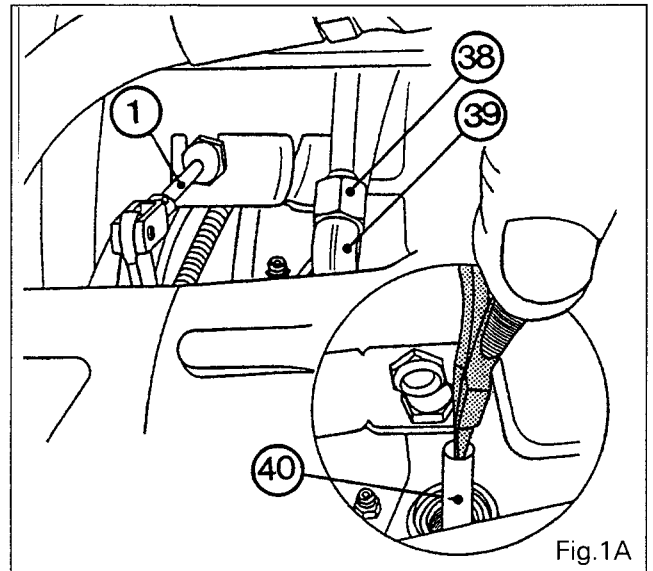

Fig.1A
2. Disconnect the supply tube (38), unscrew the connector (39) and withdraw the tube (40) (Fig. 1A).
**If access to the connector (39) is difficult on "economy 4-speed PTO" tractors, remove the control (1) (Fig. 1A).**
19. Fit the tube (40) and the connector (39) (Fig. 1A).
23. Disconnect the pressure gauge and connect the supply pipe **(38)** (Fig. 1A).
25. Check for leaks of the supply pipe **(38)** (Fig. 1A) and the operation of the differential lock.